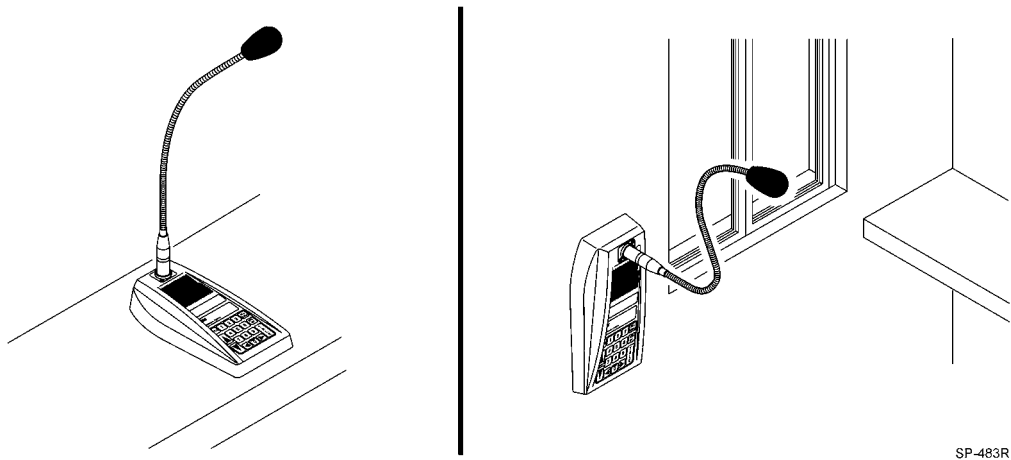

Figure 4. Suggested Station Selector Station Placement
1. Install the power supply mounting bracket in a preferred location. (Refer to Figure 4.)
2. Insert the power supply transformer into the mounting bracket. (Refer to Figure 4.)